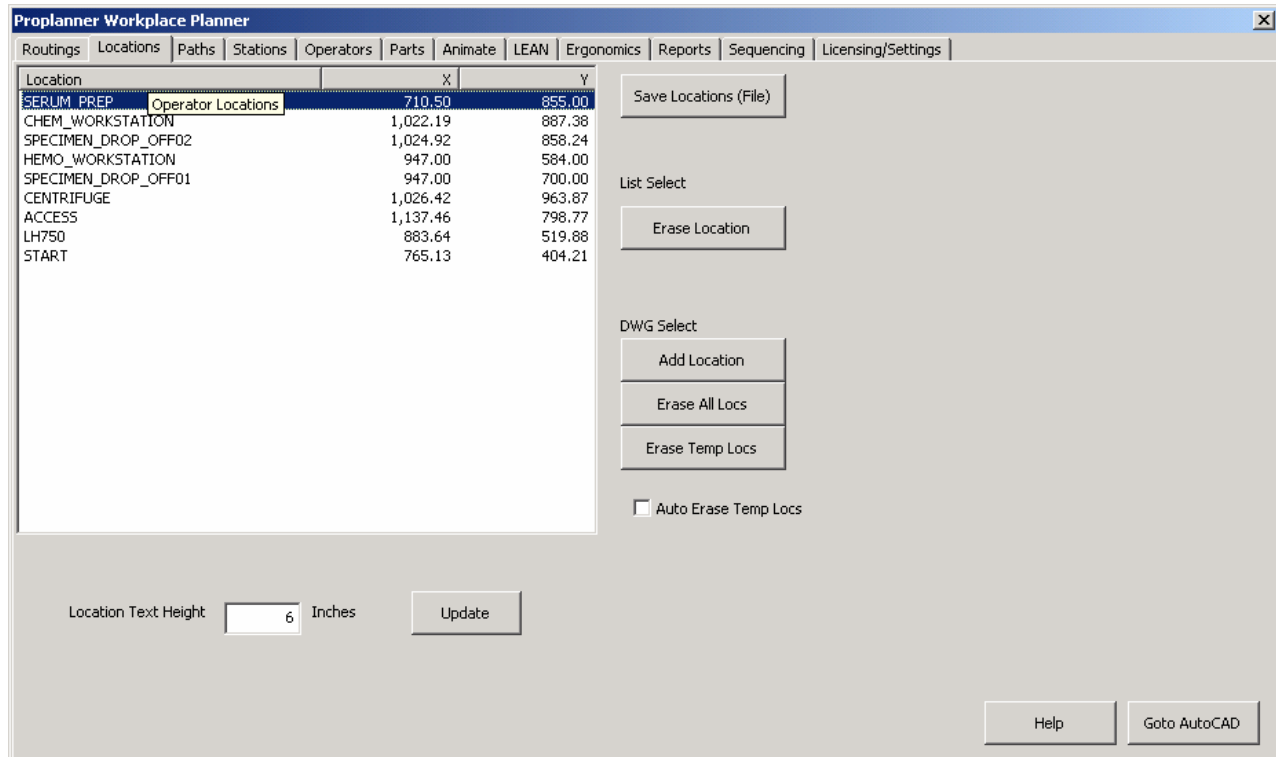

Figure 5
STEP 5: In the **Operators** tab, notice the **Start Location** of TECH1 is in HEMO_WORKSTATION and TECH2 is in CHEM_WORKSTATION. The **Start Location** needs to be changed from the default of START when creating your own routing. You can now select the **Locations** tab to see the location text that Proplanner found on the PP_LOCATIONS layer within the drawing. (See Figure 5) The text has already been added for you, however you could add additional location(s) by selecting the **Add Location** button in the middle right of this screen, under DWG Select, or by going into AutoCAD and simply placing text manually on this layer. Workplace planner will also notify you if a specific location is missing from the drawing but is defined in the routings, and will ask you to locate it in the drawing when the Calculate button is clicked. If you ever need to move a location, highlight the location, click **Erase Location**, and then click Calculate to put the move the location. After the calculation, click on each path from where the old location was and delete them. Recalculate to get updated paths.